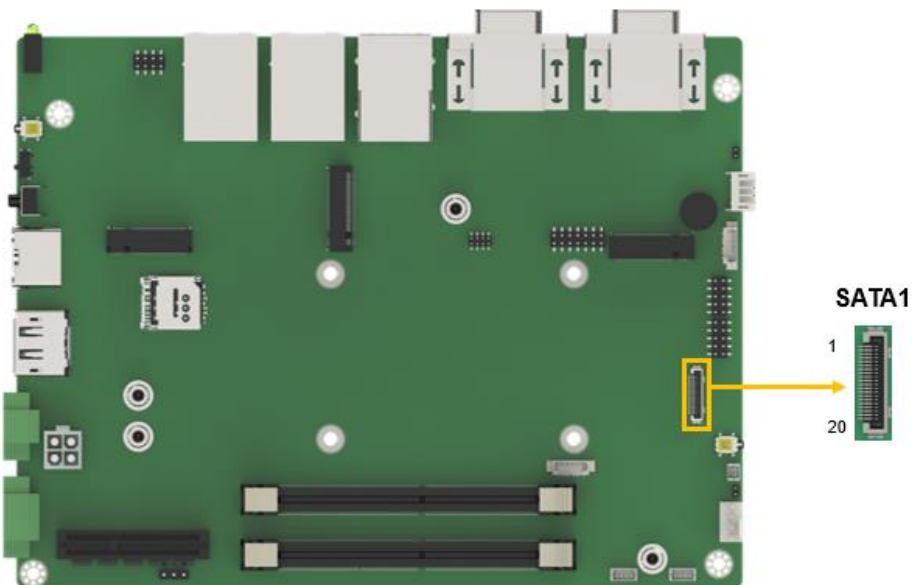

Figure 4-15: SATA 6Gb/s Drive Connectors Location
- CN Location:** See **Figure 4-15**